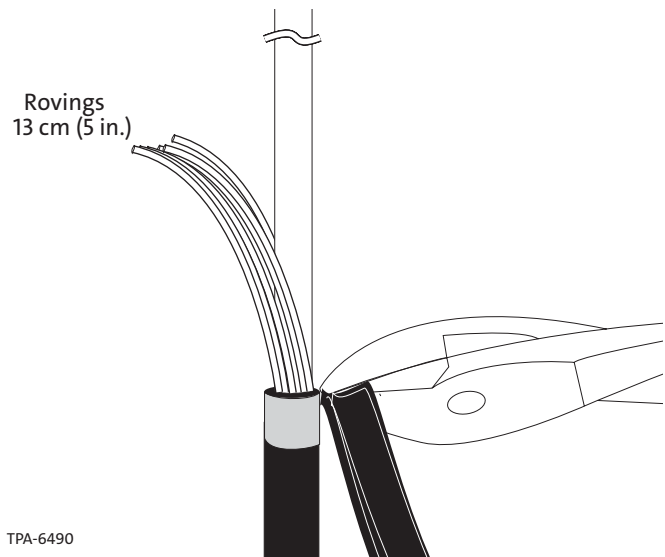

Figure 7
Step 9: Use side cutters to cut the rovings about 13 cm (5 in.) from the tape wrap (see Figure 7).
Step 10: Trim off the two sections of sheath at the tape mark with side cutters or scissors (Figure 7).